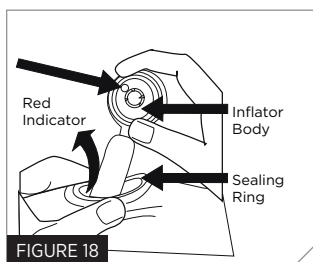

FIGURE 18
8. Gripping the inflator body, pull it and the cylinder out through the clear O-ring in the PFD. (Fig. 18). Discard the used inflator body and cylinder (Fig. 19).